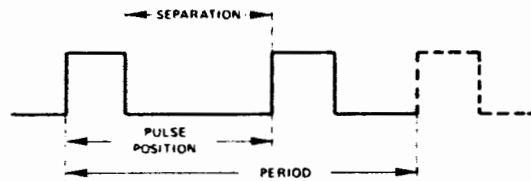

Figure 3-3. Timing parameters in Double Pulse Mode.
- b) the minimum separation between the first and second pulse (see figure 3-3) is the minimum setting of the selected pulse position range e.g. in 1m-10m pulse position range, minimum separation is 1ms.